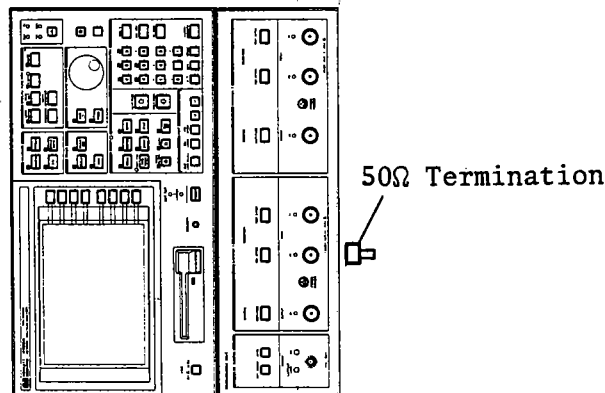

Figure 3-72. Receiver First IF Converter Local Leak Adjustment Setup
1. Position the HP 4195A as shown in Figure 3-72 on its left side, and connect a 50 $\Omega$  Termination to INPUT R1.